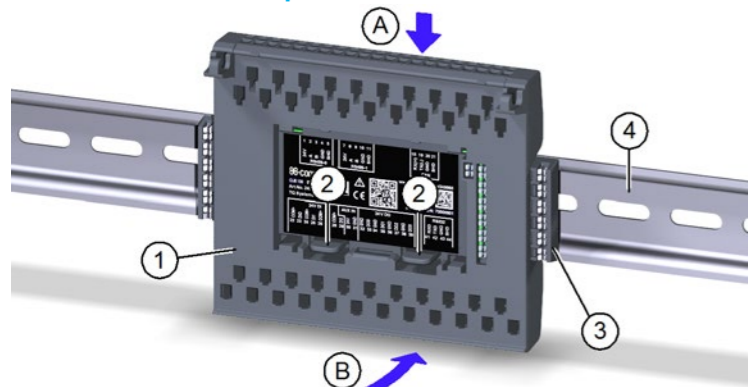

Fig. 5: Place the backplane on the DIN rail
- ▶ Arrange the backplane (item 1 in Fig. 5) so that the two tabs (item 2 in Fig. 5) are underneath.
- ▶ Holding the backplane at an angle, engage it from above (item A in Fig. 5) in the top edge of the DIN rail (item 4 in Fig. 5).
- ▶ Carefully press the backplane (item 1 in Fig. 5) against the DIN rail (item 4 in Fig. 5) until it snaps into place (item B in Fig. 5).
- There must be no backplane connector (item 3 in Fig. 5) inserted on the last module of a row of DIN rails or on the last module of the entire installation.
- To detach the backplane from the DIN rail, press the two tabs (item 2 in Fig. 5) down lightly and swivel the backplane up.